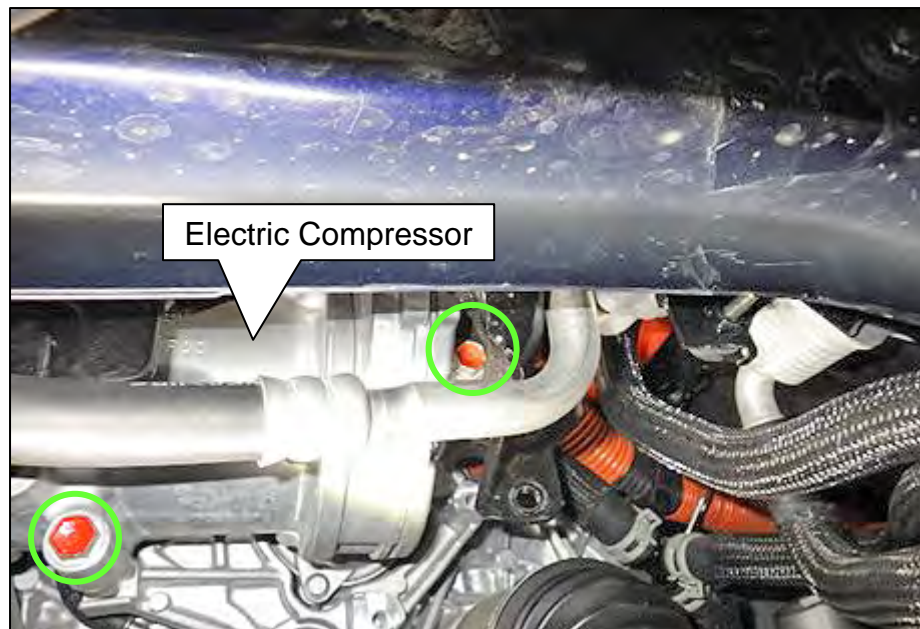

Figure 32
49. Remove the two (2) lower mounting bolts of the Electric Compressor (Figure 32).